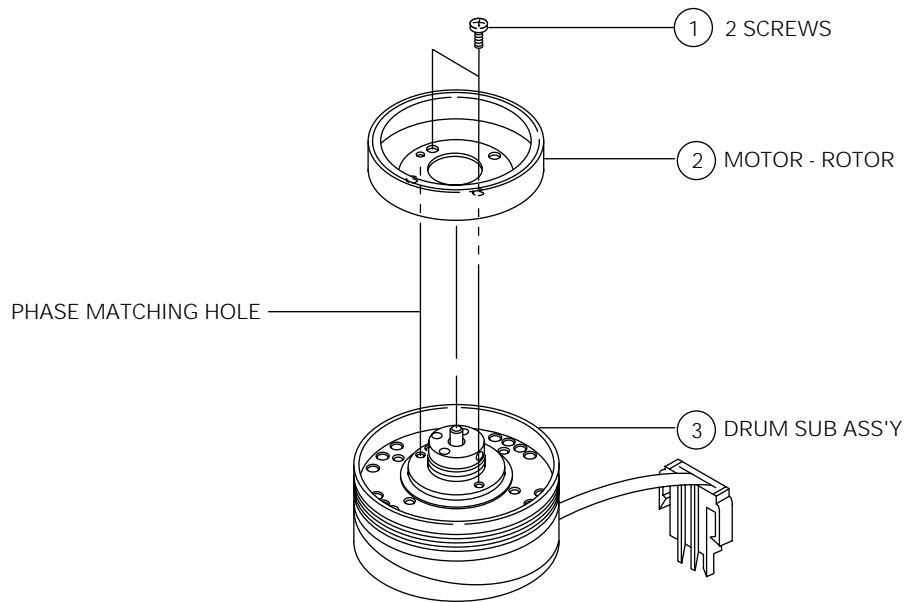

Fig. 4-18 Assembly of Motor Rotor and Cylinder Sub Ass'y
1. Make sure that phase matching holes of the Motor Rotor and the Cylinder Sub Ass'y are aligned correctly as shown in Fig. 4-18 (Refer to phase matching hole).